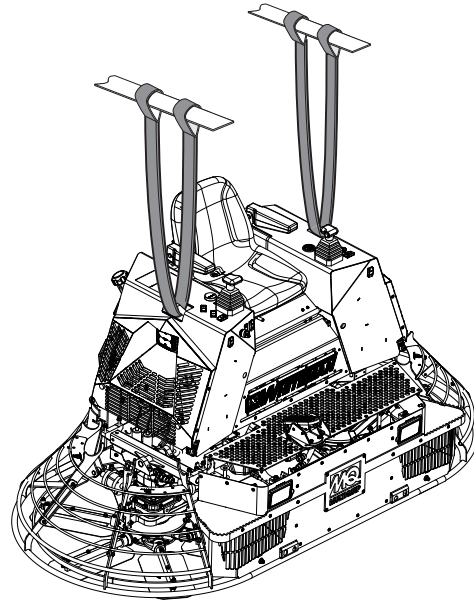

Figure 1. Lifting the Trowel
1. Attach one end of a lifting strap or chain around the lift loops on each side of the trowel. Attach the other end of the lifting strap or chain to the lifting device (Figure 1).